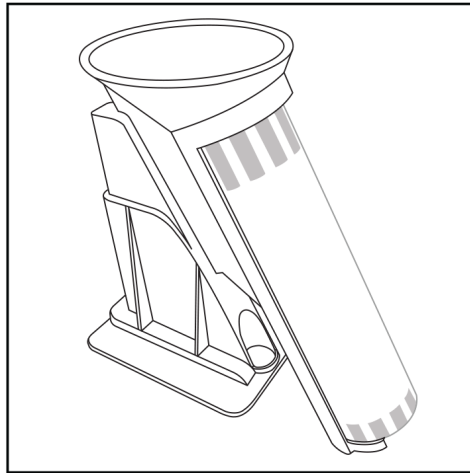

Figure 1 - Coin roll inserted into coin tube
2. Insert the correct paper wrapper in the coin tubes with the folded end down. Ensure the top of the paper wrapper is below the top lip of the coin tube as shown in Figure 1.